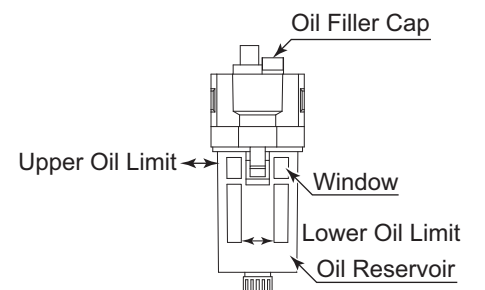

Fig. 21
- Fill Oil Reservoir through the Oil Filler Cap with recommended NAKANISHI Lubricating Oil (K - 211 : Air Line Kit's Standard Accessories) to Upper Limit of the Fig. 21. Disconnect from air supply prior to opening Oil Filler Cap. Do not over or under fill.
- Oil Amount (Fig. 21) Check the Oil Amount in the Window. If the Lubricating Oil level is low, add additional oil. (Supply Lubricating Oil to Upper Oil Level Limit of Fig. 21.)